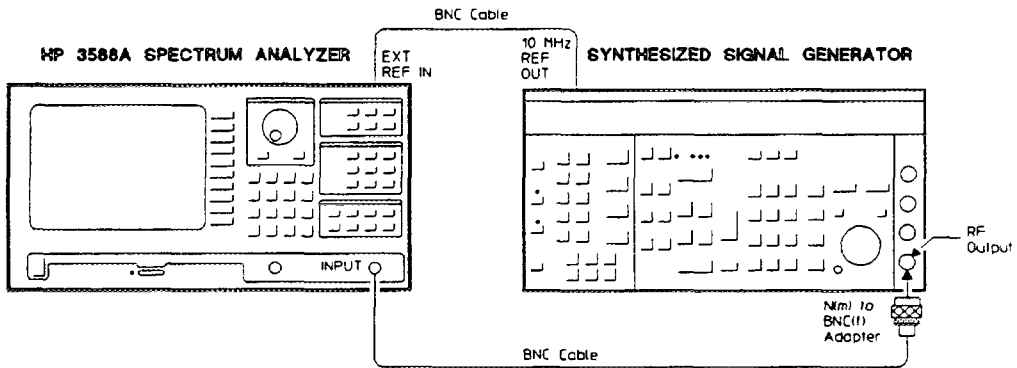

Figure 3-3. Image Responses Setup
1. Connect the test equipment as shown in figure 3-3.